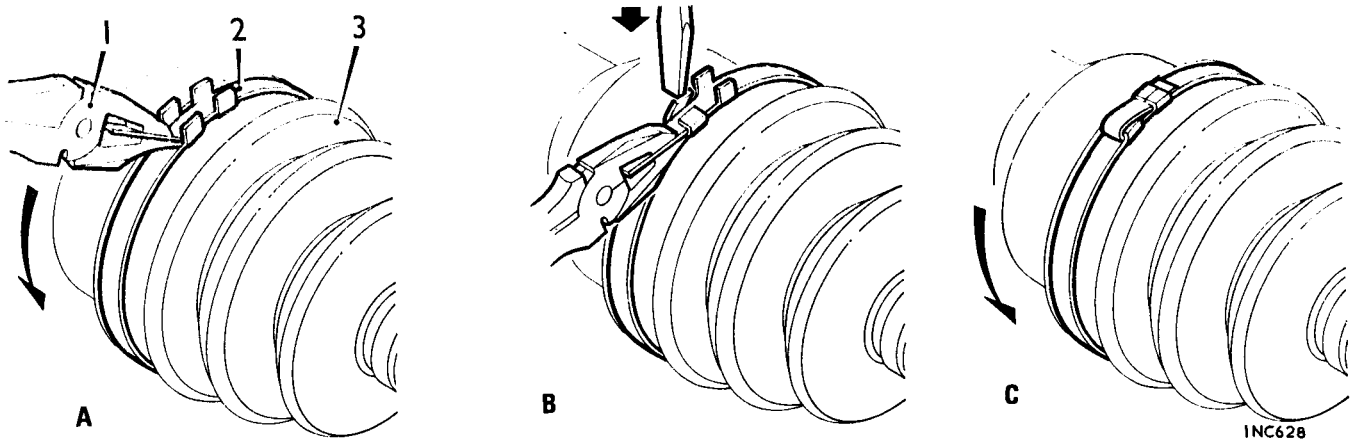

Fig. G.6
26. Slide the rubber boot over the bell joint until the radiused rib registers in the locating groove, and secure it with the large clinching clip using Service tool 18G 1099 (Fig. G.6). This is fitted with the tab pulled through away from the direction of forward rotation. Locate the other end of the boot in the groove in the drive shaft and secure it with the small clinching clip using pliers 18G 1099.
**NOTE.**—A modified rubber boot which has axial convolutions (see Fig. G.6) should be fitted when a replacement is required.